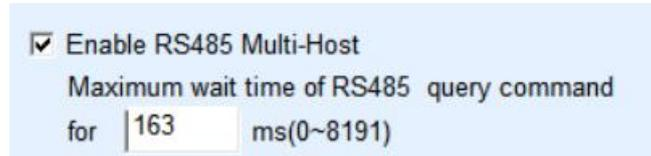
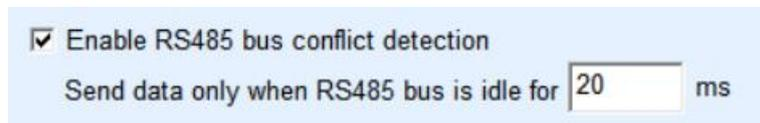

Figure 38 RS232 multi-host support
Figure 39 Free time of RS232 conflict prevention
1. Figure 39 shows the RS485 bus collision prevention time. Generally, you can set it to twice the value of Packet Interval in the lower right corner of the parameter configuration page, but the value cannot be less than 20.
2. Figure 38 shows the "RS485 command response timeout time", which is generally determined by the length of the command to and from the reply. If the send command is N bytes and the reply is M bytes, the recommended value is "packet
At this time, it should be noted that the two check marks "RS485 bus collision prevention time" as shown in Figure 39 and "RS485 command response timeout time" as shown in Figure 38 need to be removed. Otherwise, the preceding forwarding function cannot be implemented.